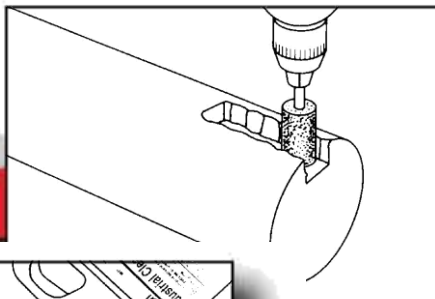

Figure 1
1. Most important is to "smooth out" the shaft by using a lathe (**Figure 1**), unless the worn area already meets the undercut depth. A usual guideline for machining depth is: